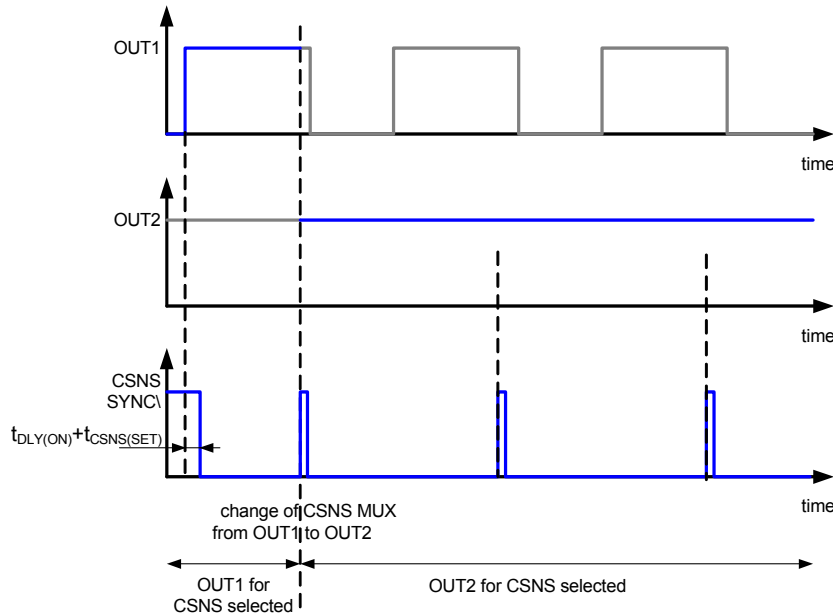

Figure 34. CSNS SYNCB when the output is programmed with 100%
- when the output is programmed with 100% PWM, the CSNS SYNCB delivers a logic[0] a high pulse with the length of 100 μ s (typ.) during the PWM counter overflow for TRIG0 and TRIG1/2 settings, as shown in Figure 34